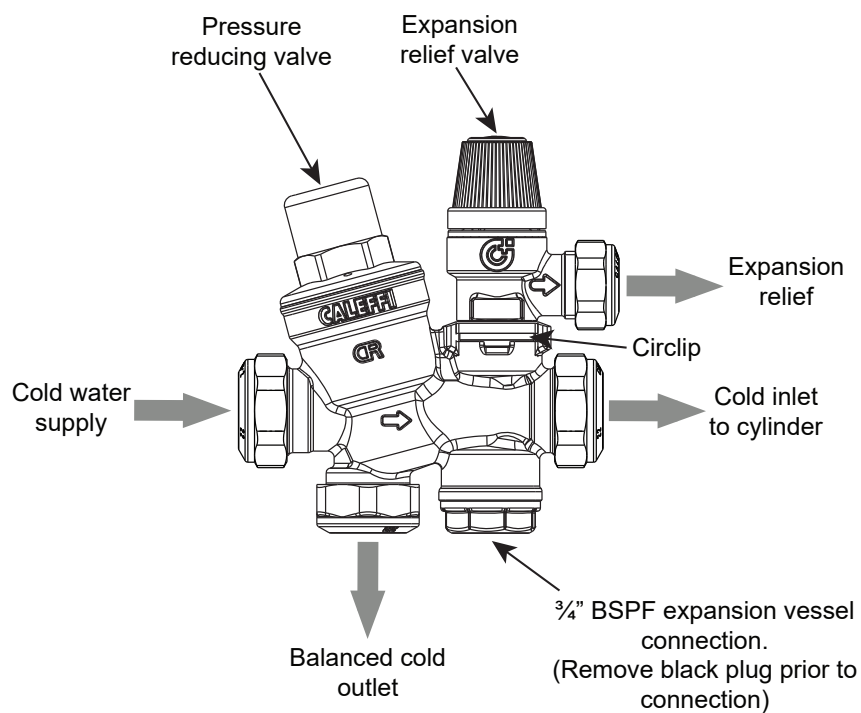

Figure 4-1: Cold water inlet manifold
A balanced cold water connection is provided on the inlet manifold. Refer to Figure 4-1. This should only be used to provide balanced cold supplies to shower valves and mixer taps. If the balanced cold water outlet is not required, blank off this port.
3. Once the pipework is flushed connect the cold supply to the Inlet manifold. Refer to Figure 2-1 for location and Figure 4-1 for a detailed drawing of the manifold. A service valve (not supplied) must be fitted in the cold supply to the cylinder before this connection is made.
6. Connect the expansion vessel directly to the ¾" BSPF connection in the inlet valve manifold body, after removing the black plastic plug (see Figure 2-1 for location and Figure 4-1 for a detailed drawing of the manifold). Refer to Section 4.4 for more information on fitting the expansion vessel.
The preferred method of connection is to hard pipe the expansion vessel directly to the ¾" BSPF connection in the inlet valve manifold body using 22mm diameter pipe. Refer to Figure 4-1.
1. Remove the black plastic plug from the inlet manifold body (refer to Figure 4-1).